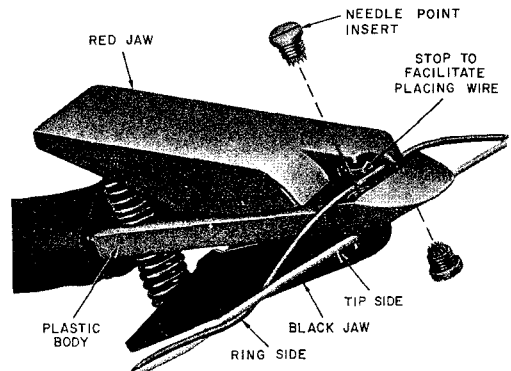

Fig. 2 — C Cable Clip
2.02 The C Cable Clip (Fig. 2) provides the contact to the tip and ring sides of a cable pair in one operation by means of needle point insert assemblies. Two stops in the cable clip facilitate placing wire in the jaws. This clip is suitable for engaging 26-through 19-gauge plastic, strip paper, and pulp insulated pairs.